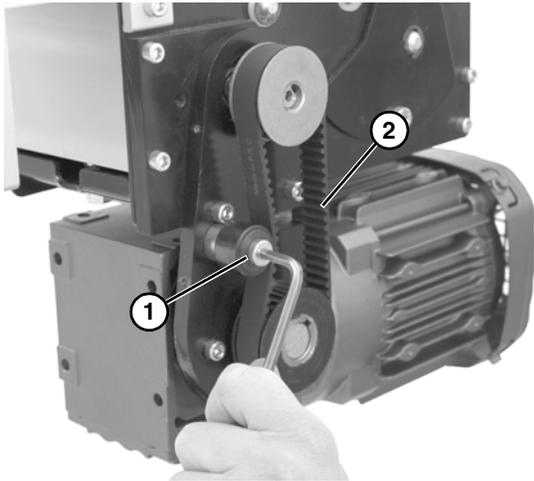

Figure 24
3. Loosen tensioner (**Figure 24, item 1**) and remove timing belt (**Figure 24, item 2**).